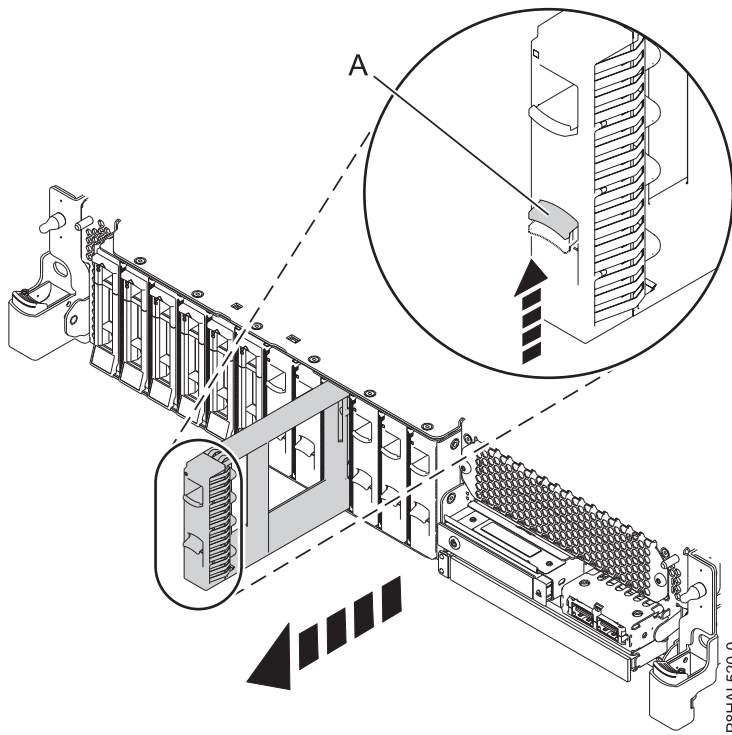

Figure 22. Removing a disk drive filler from a base function system
- a. Push the lock (A) on the handle of the filler in the direction that is shown in Figure 22.